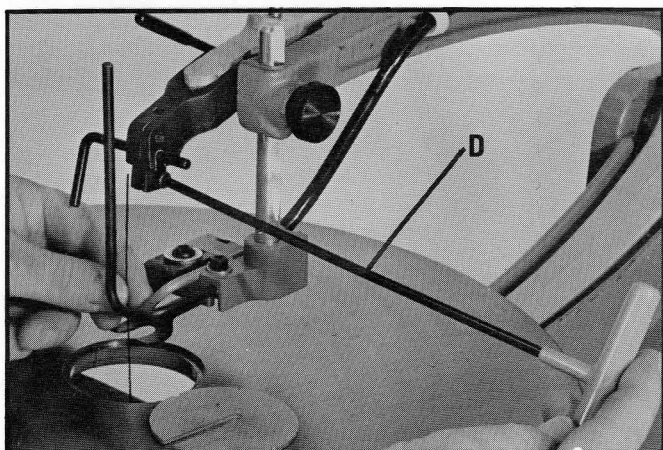

Fig. 16
4. Loosen blade holder screw using wrench (D) and remove blade from upper blade holder, as shown in Fig. 16.